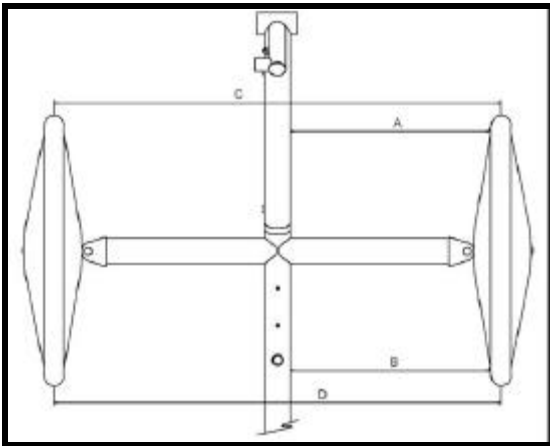

Fig. 6
Make sure the handlebar stays parallel with the outrigger tubes of the frame during these adjustments. Measure the distance between the frame and the leading edge (A), and then the trailing edge (B) of one wheel. Adjust that wheel's tierod until these measurements are the same. This will give you one wheel that is parallel with the frame. Now measure the distance between the leading (C), and trailing (D) edges of the front wheels. Adjust the other tierod until these measurements are the same. Make the measurements from the center of the tread on each tire, and keep the tape measure level with the ground. (See Fig. 6)